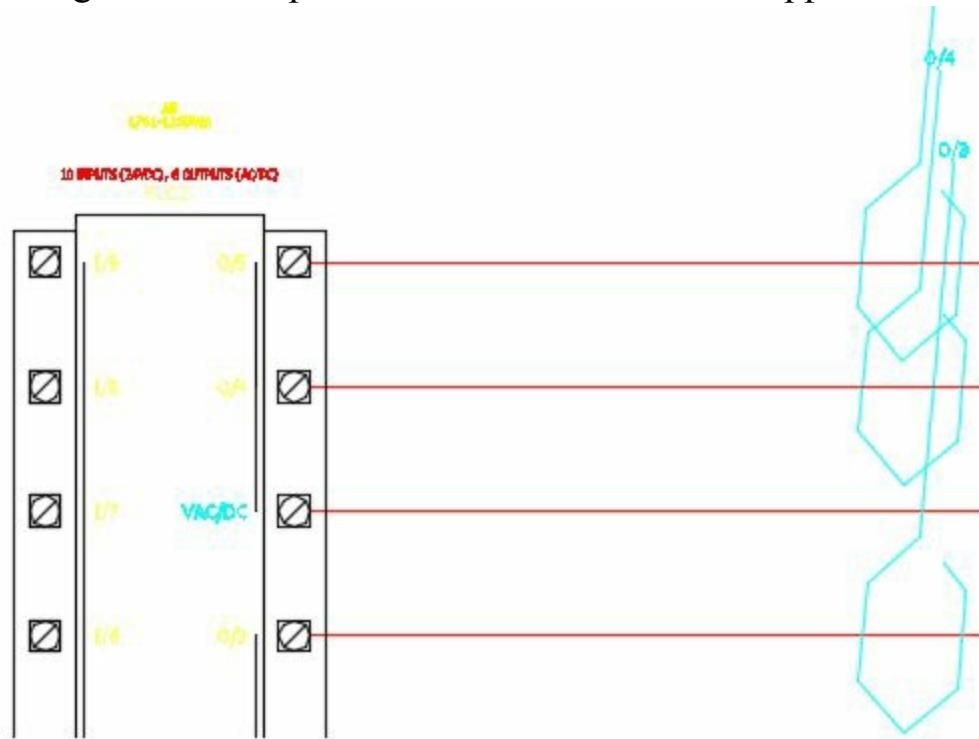

Figure-30. PLC I/O Wire Numbers
- The tags defined as per the PLC are extracted and applied to the wires; refer to Figure-30.